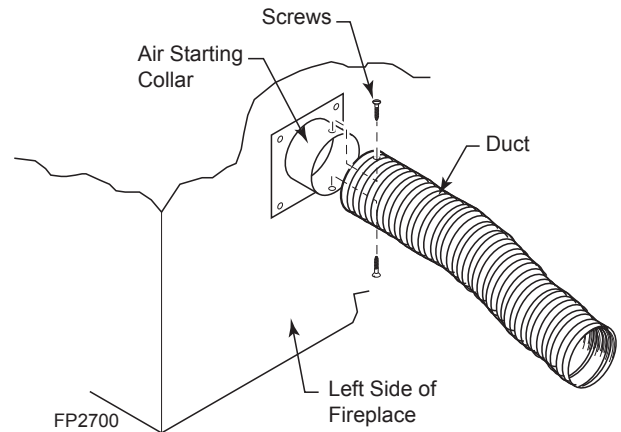

Figure 17 -
4. Attach outside duct to starting collar with duct clamp or screws. *Figure 17*
6. Select and cut a piece of duct long enough to attach to the fireplace and stick out at least 3" beyond the face of the wall to which the AK-4 inlet air vent will be attached. Cut duct with a standard pocket knife. *Figure 17*